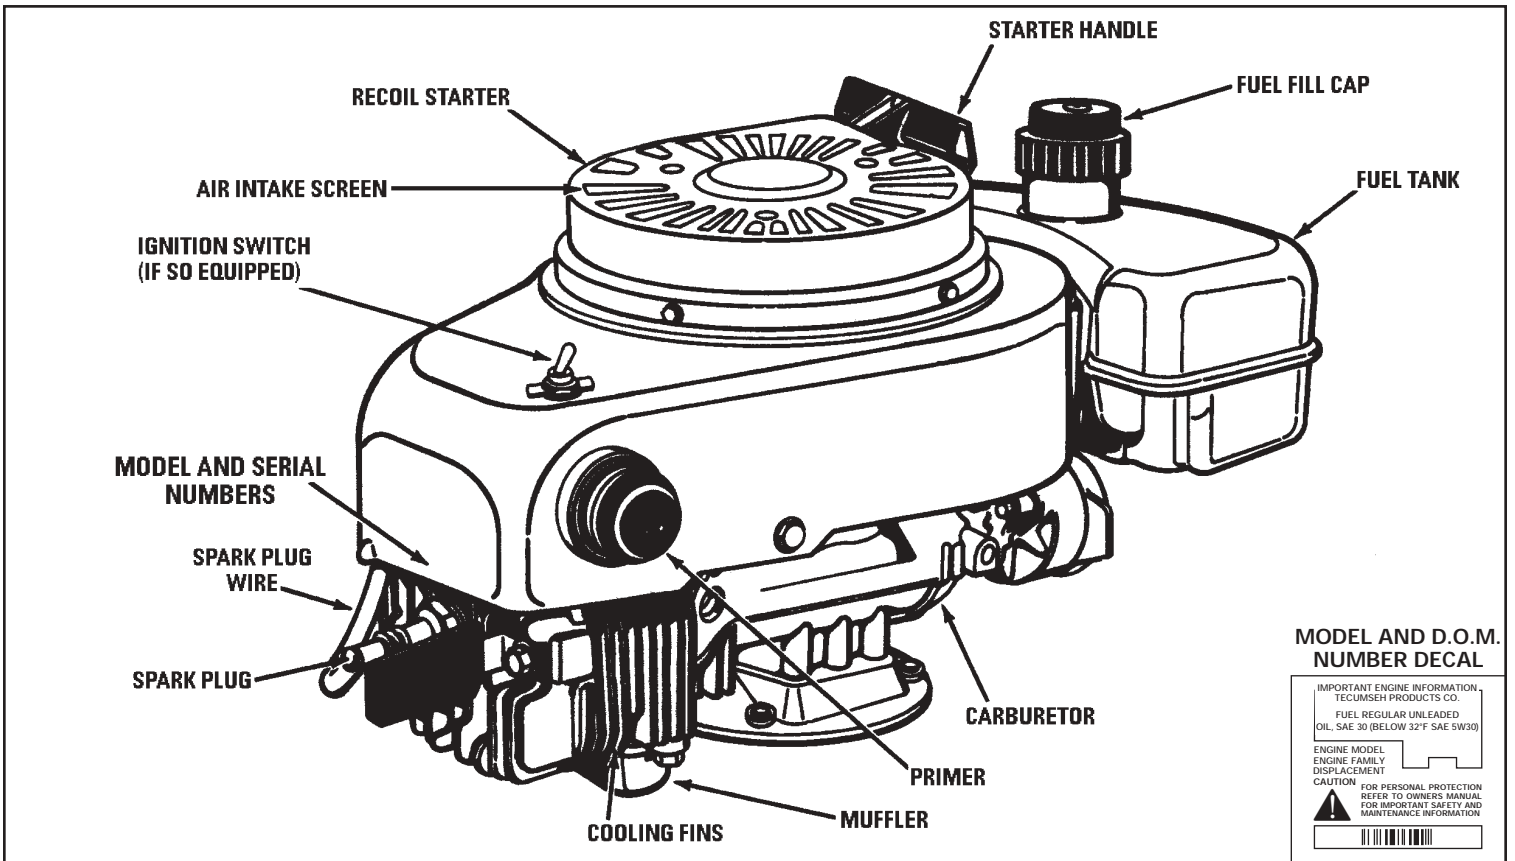

Figure 1
- C. Grasp starter handle (see Figure 1) and pull rope out, slowly, until it pulls slightly harder. Let rope rewind slowly. Then pull rope with a rapid short arm stroke. Let rope return to starter slowly.